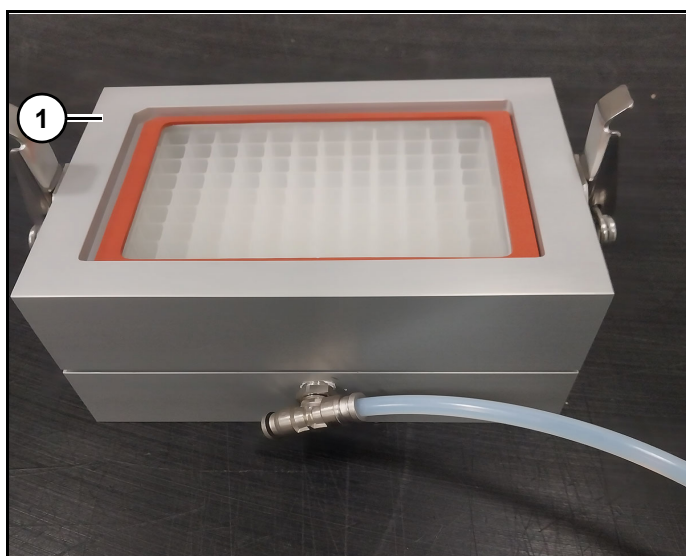

Figure 114
- Place top portion (1) (Figure 114) of cleavage chuck on top of bottom portion of the chuck with 96 well plate.